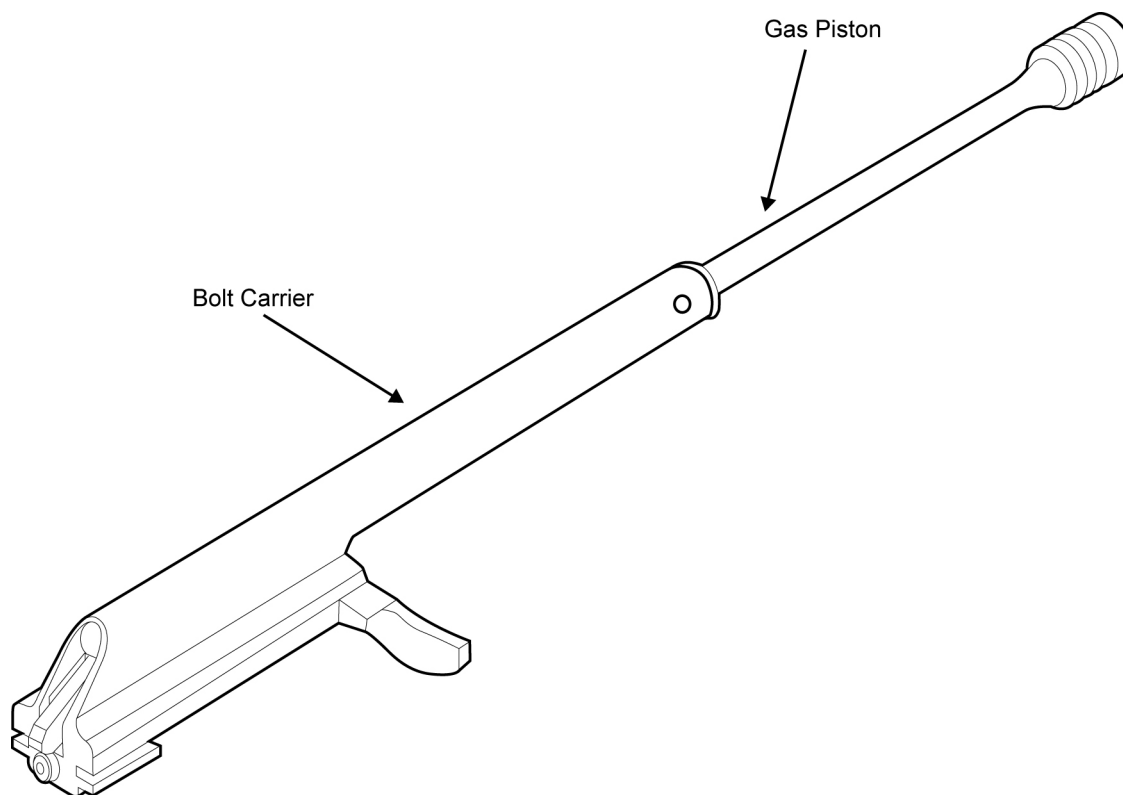

Figure 10. Bolt Carrier Assembly.
b. Burred bolt carrier assembly (gas piston and bolt carrier). Refer to Figure 10.	Remove burrs or replace the bolt carrier assembly. Refer to WP 0011 00.